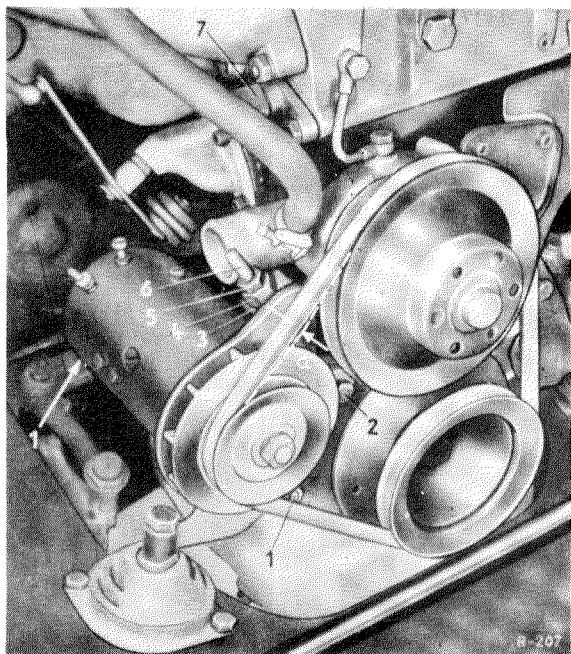

Fig. 50 — 5/1
1. The fan belt has the specified tension if moderate thumb pressure applied at the center point between the water pump and generator pulleys depresses the belt from its straight position a distance of  $a = 5-10$  mm (Fig. 50 — 5/1).